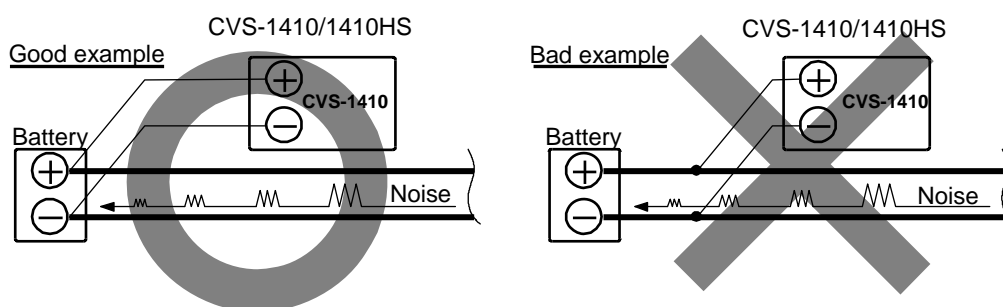

Fig. 5.1 Connection of Power Line
- (3) If you connect the power cable directly to the battery, the interference from other electronic equipment is not subject to occurrence. (See Fig. 5.1.)